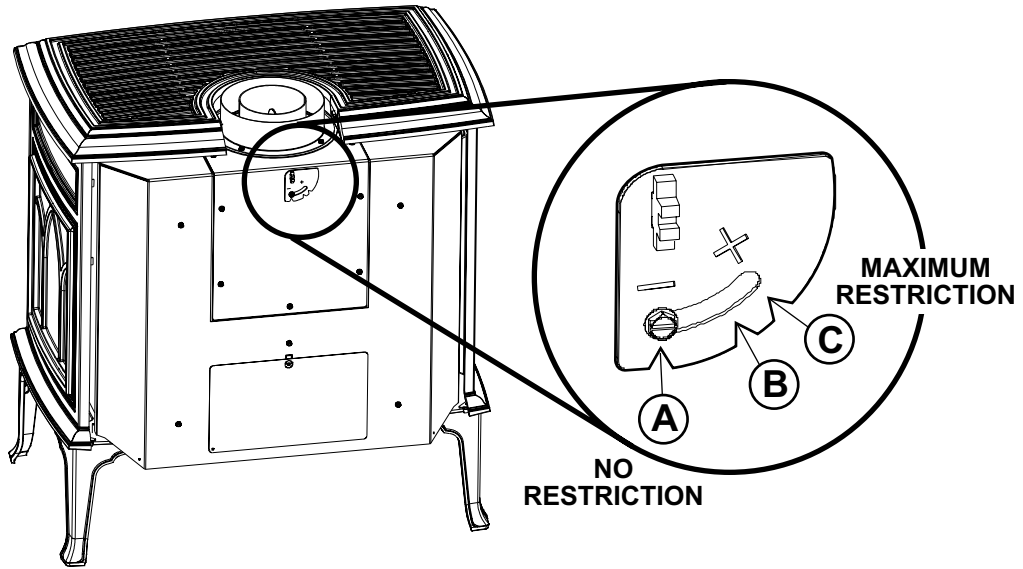

Figure 4.8. Use 1/4" socket driver to loosen the Exhaust Restrictor dial and adjust to the appropriate notch for your termination zone.
The Exhaust Restrictor is an adjustable plate located within the firebox exhaust outlet. It is adjusted by rotating the dial at the back of the stove within a range from the factory-set, fully open (no restriction) position to a fully restricted position. See Fig.4.8. The Plus (+) and Minus (-) signs on the dial relate to degrees of restriction, from zero to approximately 70%. The three lettered positions correlate to the termination zones (A,B,C) diagramed in figure 15. Use the diagram to determine the degree of restriction and shutter setting you should use.
3. Locate the restrictor adjustment dial on the top of the exhaust outlet. Use a 1/4" nut driver to loosen the lock nut and pivot the dial to the position appropriate to your termination zone. See figs. 4.8 and 4.9.